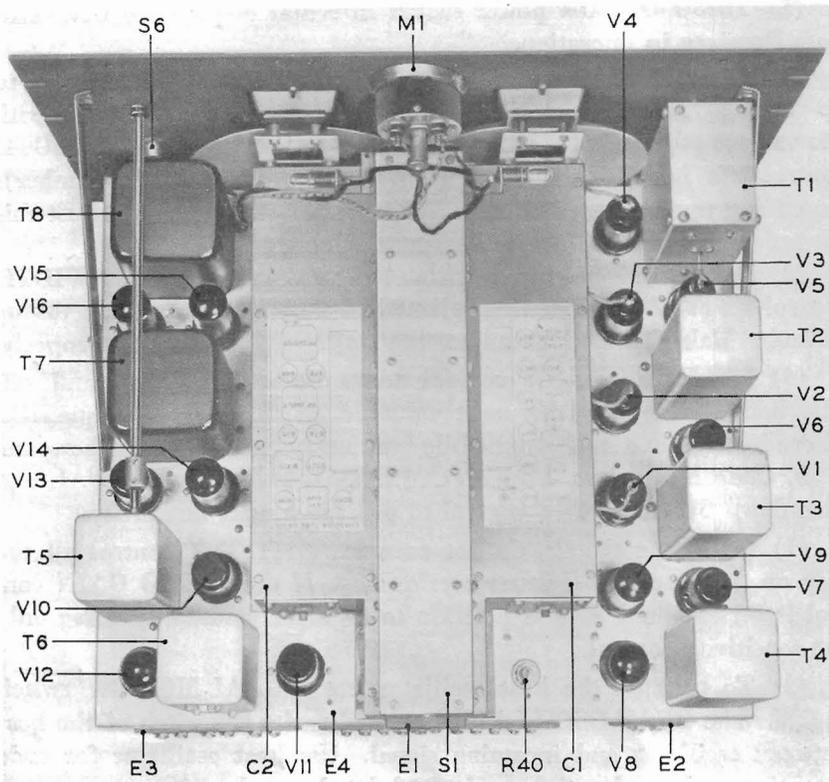

FIG. 7 -Top chassis view showing arrangement of components.
The proper location of these tubes is shown in FIG. 7 and on the diagram attached to the top of the tuning unit. Make sure that tubes V1, V2, V3, V4 and V5 have leads connected to their grid caps.
h. *S-Meter Tuning:* The S-meter (M1, FIG. 2), a tuning guide, operates only when the Receiver is set for AVC. Its reading increases as the Receiver approaches resonance with the incoming signal. Exact resonance is shown by the greatest reading of the meter. BAND WIDTH control must be set at 3 for accurate tuning by means of the meter. A screwdriver adjustment (R40, FIG. 7) at the rear of the chassis varies the resistance in shunt with the meter. By means of this adjustment, an "S9" reading may be obtained on any input between approximately 10 and 10,000 microvolts. The normal factory adjustment is made on an input of 50 microvolts, and when so adjusted each "S" number represents a change in signal input of approximately 6 decibels, or a ratio of two-to-one.